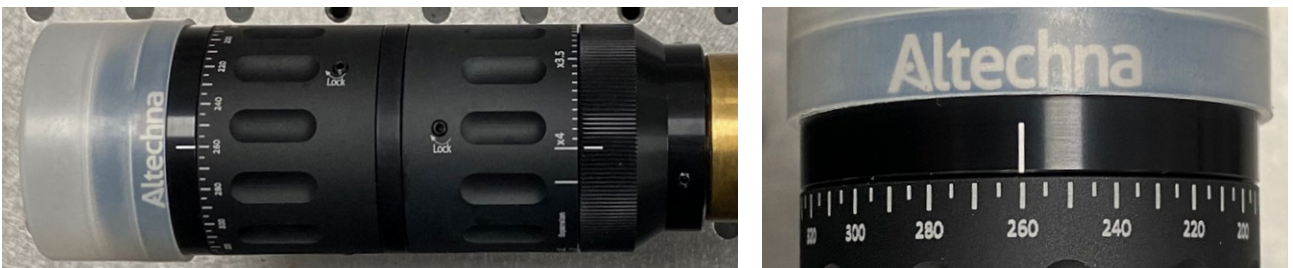

Figure 18. Setting expansion and focusing.
10. Set VBE expansion scale back to “x4” and focusing most counter-clockwise, it should correspond to ~260° mark on the scale (fig. 18):